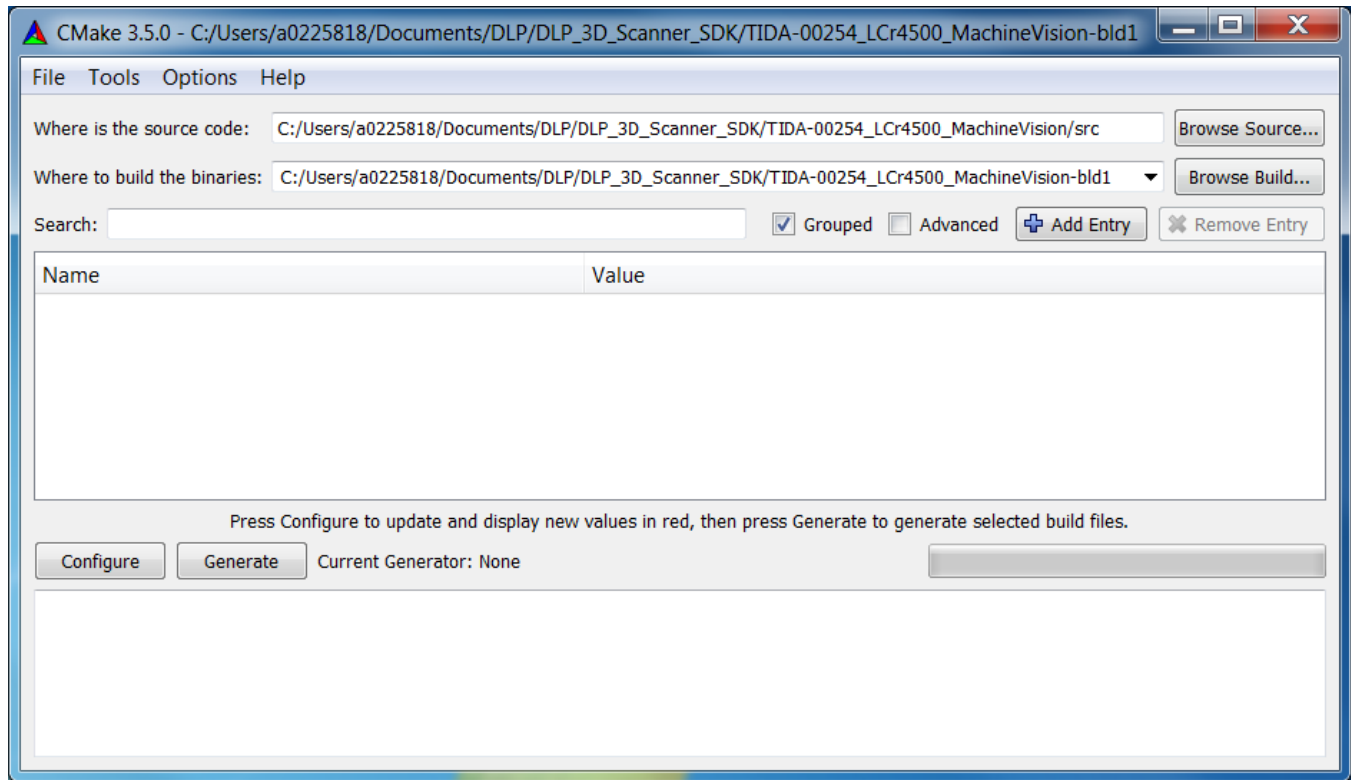

Figure 56. CMake Source and Build File Paths
- Once CMake is open, browse for the reference design source code and create a new folder for the built source code. The CMake interface should look like Figure 56.